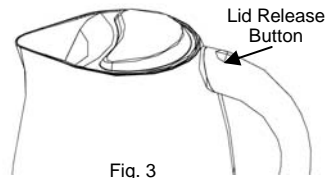

Fig. 3
2. Press the lid release button for easy filling. (Fig. 3)